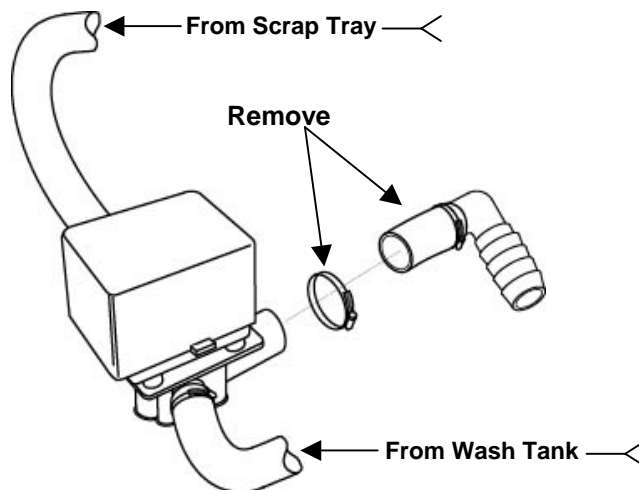

Figure 1
1. Start by removing the existing drain hose from the Drain Valve as shown in **Figure 1**.